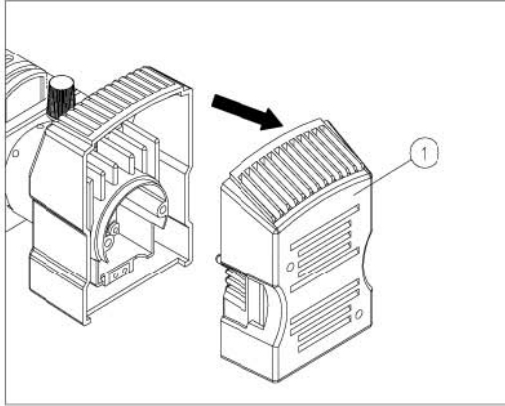

Fig. 1
1. Pull out the lamp house① (Figure 1)